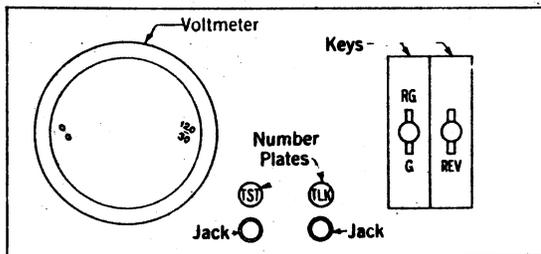

Fig. 1 - Front of Voltmeter Test Panel.
2.01 The test panel is a small compact unit arranged for location in one panel of the jack field. It is equipped with a voltmeter, two keys designated RG-G and REV and two jacks designated TST and TLK which are arranged as shown in Fig. 1.